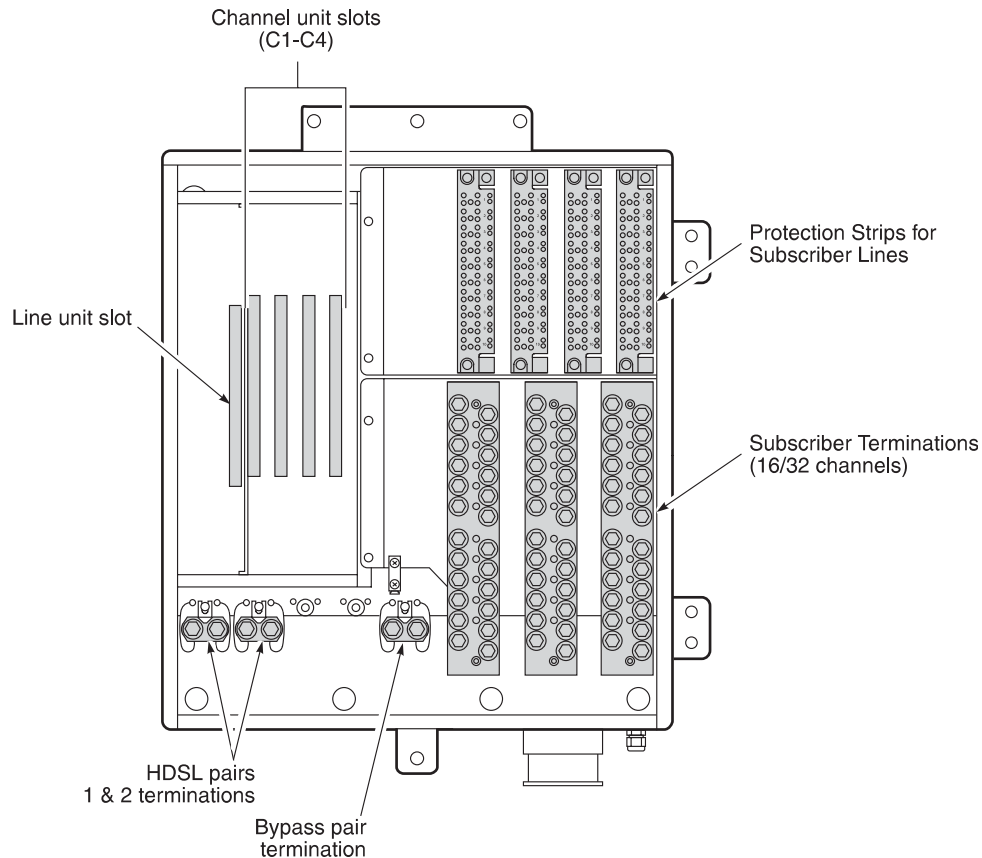

Figure 1. FRE-765 List 5A RT Enclosure (Inside View)
The ADC® PG-Flex® FRE-765 List 5A RemoteTerminal (RT) Enclosure (see Figure 1) provides convenient mounting of one Line Unit and up to four Channel Units, supporting up to 32 channels. The enclosures also provide termination points for subscriber circuits, auxiliary power pairs, and metallic bypass pair. AMP Quiet Front™ terminations, with internal gas tube protectors, are provided on the backplane for HDSL and Bypass connections. Optionally, you can add AMP Quiet Front terminations for auxiliary power pairs when PG-Flex is used with a PG-Flex doubler. The enclosure can be pole or wall-mounted and is environmentally sealed for outside plant installations.